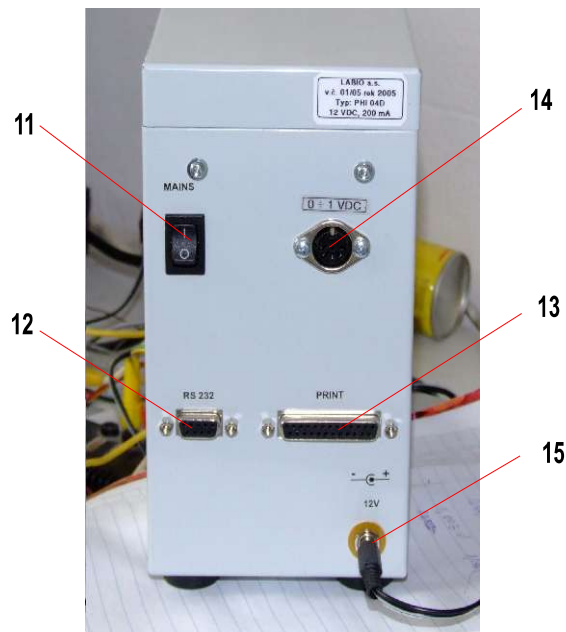

Fig. 2 Rear panel of pH-meter and ionometer PHI 04D
The power switch (11), the R232 connector for connecting the ionometer to a PC (12), the connector for a printer (13), the analog output 0 – 1V DC(14), and a cable leading to a power adapter (15) are situated on the rear panel (Fig. 2).